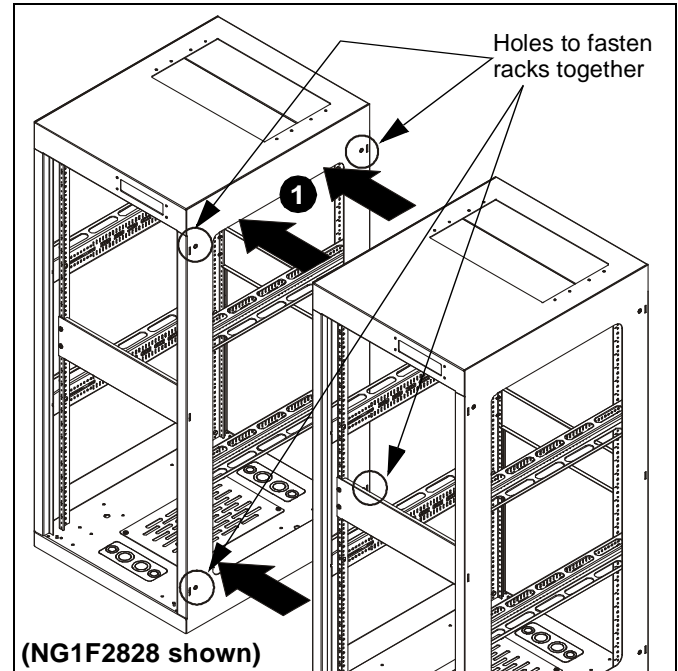

Figure 2
1. Arrange racks next to each other. (See Figure 2)